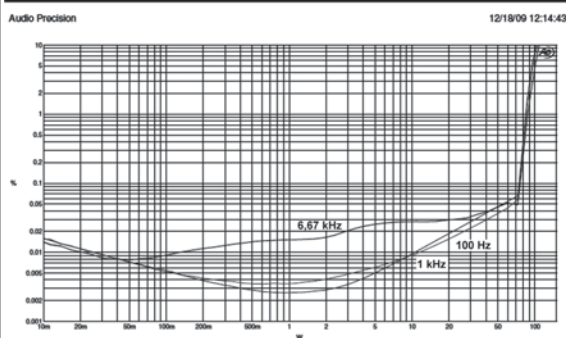

Figure 2a: ALC0180-2300 module THD vs PWR at 4  $\Omega$  with both channels driven
**Figures 2a, 2b, and 2c** show the ALC0180-2300's test results. The module offers a professional-made amplifier board, high performance specs, and sound at a very attractive price. In fact, it's a steal. You will get a patented power supply and a patented two-channel amplifier all-in-one—with no heatsinks, no fancy looking power supply capacitors and no toroidal mains transformer—simply, because you don't need them. The product is highly recommended! **ax**